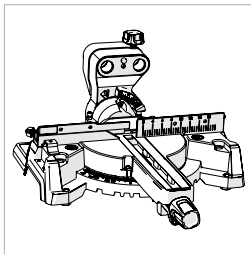

Fig. 3
- The rotary base and bevel neck **(Fig. 3)**